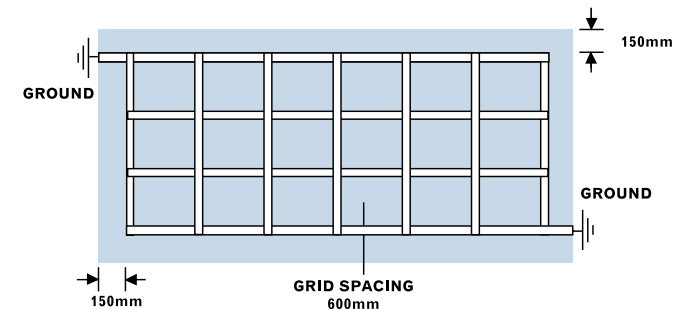

Figure 7.2 Earth strip layout
- ▶ The strips should be laid to form 600mm square grid across the floor, the perimeter strips being 150mm from the wall (Figure 7.2).